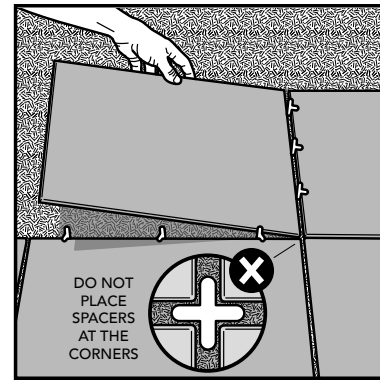

FIGURE 16 Install tile with spacers in straight rows
- The second and all successive rows will require additional spacers (two or three at the end and the side depending on the tile size) to set the tiles (Fig 16).